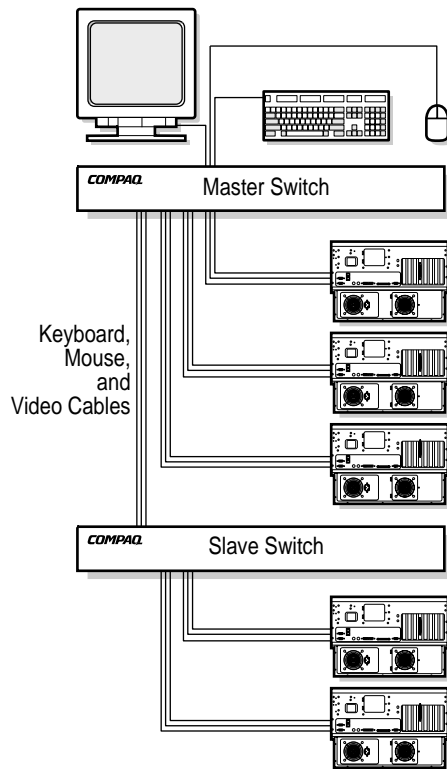

Figure 1-2. Tiered Configuration
- You can tier multiple Keyboard/Monitor/Mouse Switch Box units to connect up to 64 servers. This configuration is often referred to as a “master/slave” system. It is illustrated in the example below, with the slave unit’s device port connected to one of the computer ports on the original or master unit. Multiple Keyboard/Monitor/Mouse Switch Box units can be tiered from the master unit. See Figure 1-2.